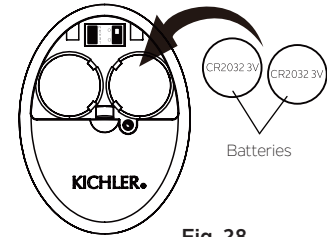

Fig. 28
**Step 3.** To make fan operational, install two 3V CR2032 batteries (included). (Fig. 28)